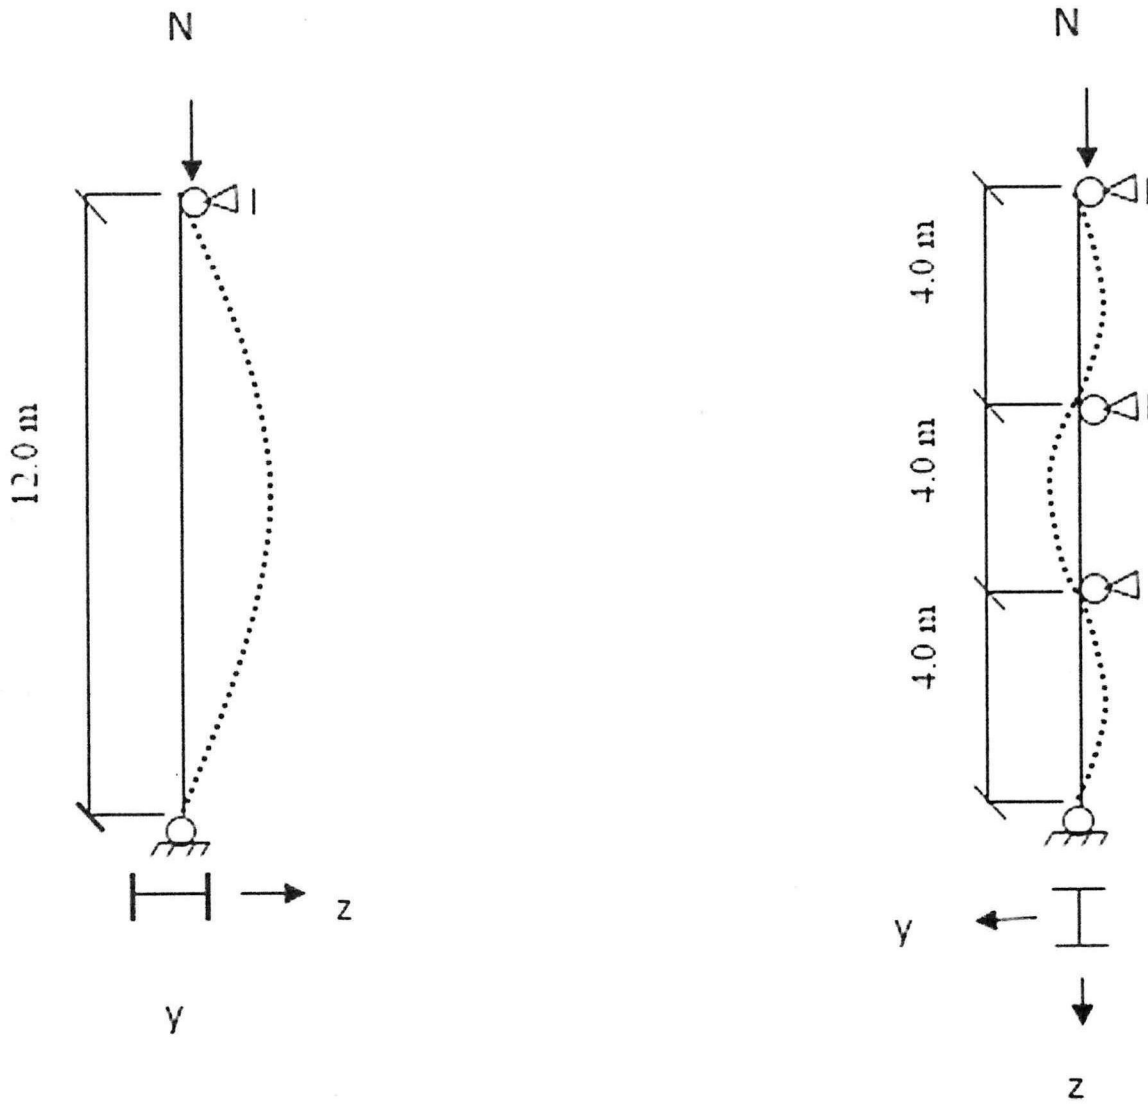

FIGURE Q4
- (b) **Figure Q4** shows a 12 m column built from S275 grade UC section ($I_y = I_z = 642 \times 10^6 \text{ mm}^4$). The column is pin ended and is laterally restrained against buckling in the minor axis at three points along the height of the column.